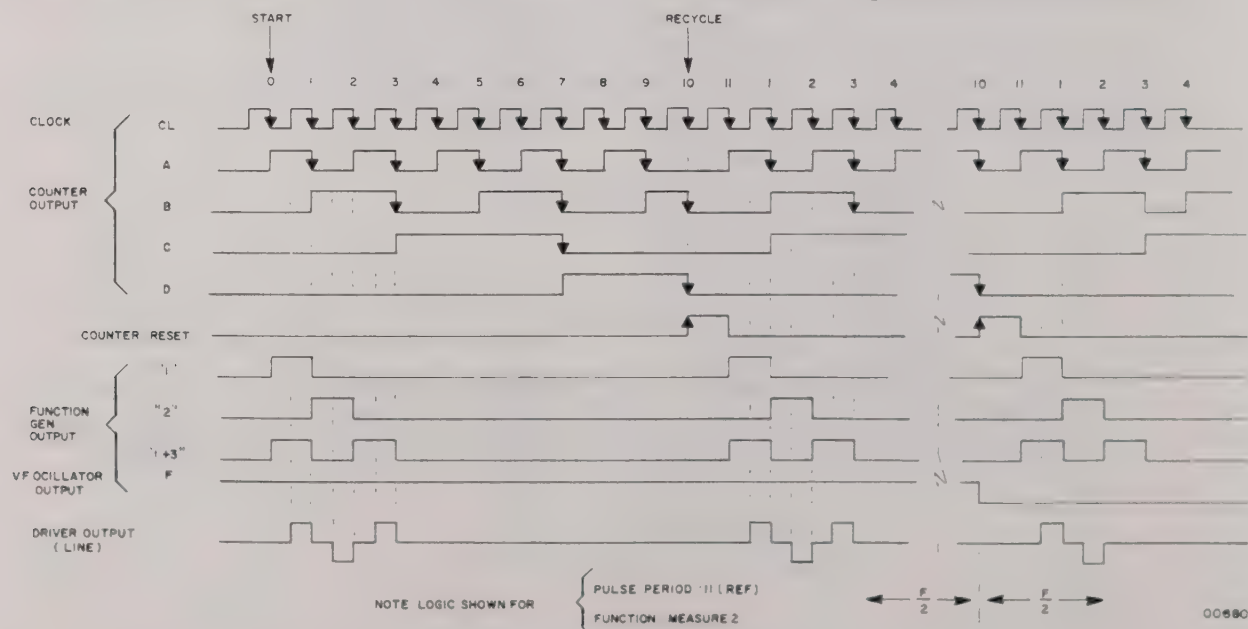

Figure 4-2. Signal Generator Timing Diagram
4.12 The basic pulse patterns which can be sent out on the T1 line by the signal generator are shown in figure 4-2. In all four of these patterns the pulse density may be varied by adjusting the length of the pulse period from 11 polar positions to 4 pulse positions. In all except the BIPOLAR pattern,
4.13 SIGNAL GENERATOR (Refer to figure 7-3). The signal generator is a hybrid of medium-power, high-speed, integrated-circuit logic elements and discreet transistor circuits. The logic convention is high true, with logical one (1) corresponding to +5V, logical zero (0) 0V. Figure 4-2 illustrates the logical sequence of the signal generator.
a. **CLOCK:** Transistor Q1 and associated components form a crystal-controlled Colpitts oscillator operating at 1.544 MHz. Transistor Q2 interfaces the oscillator with OR gate U1 which functions as a Schmitt trigger, or squaring circuit, to generate the clock pulse train (CL). Width of the clock pulse is controlled by R7.